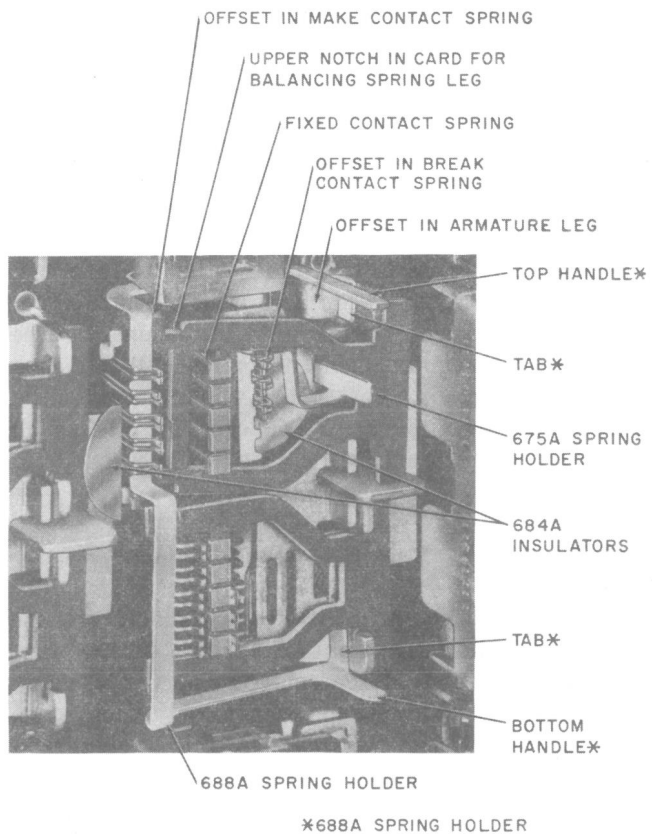

Fig. 10—AM-Type Relay—688A Spring Holder Mounted on Relay (675A Spring Holder and 684A Insulators in Place on Upper Half of Relay)
3.31 The 688A and 688B spring holders are used to hold make-contact springs of the upper and lower halves of the relay, respectively, during replacement of the associated card. Each of the spring holders has five notches to engage the five pairs of make-contact springs with which it may be used. It is important that the pairs of springs are engaged by the proper notches in the holders. Special care is required to engage the pairs of springs in the proper notches if all five positions on the relay are not equipped with these springs. Each of the spring holders has a top and a bottom handle. On the 688A spring holder, the bottom handle is adjacent to the unnotched section; on the 688B, it is adjacent to the notched section. The 688A spring holder is shown mounted on the relay in Fig. 10. To mount either the 688A or 688B spring holder, proceed as covered in 3.32.
and move the card as far to the left as possible. With the other hand, hold the spring holder by the bottom handle and insert the notched section of the holder between the make contacts so that it touches the card. Swing the handle of the holder to the right and position the notched section behind the make contacts. Release the card. Then, using both hands, grasp the top and bottom handles of the spring holder. Position the holder so that its tab adjacent to the card being replaced is in front of this card and the pairs of make contact springs are engaged in the proper notches. Then, with the springs in the notches, move the holder to the left and position it so that each tab rests against the left side of the adjacent armature leg. Make sure the notched section of the holder is against the offset in the make-contact springs and that the inner edge of each tab is against the offset in the armature legs as shown in Fig. 10.